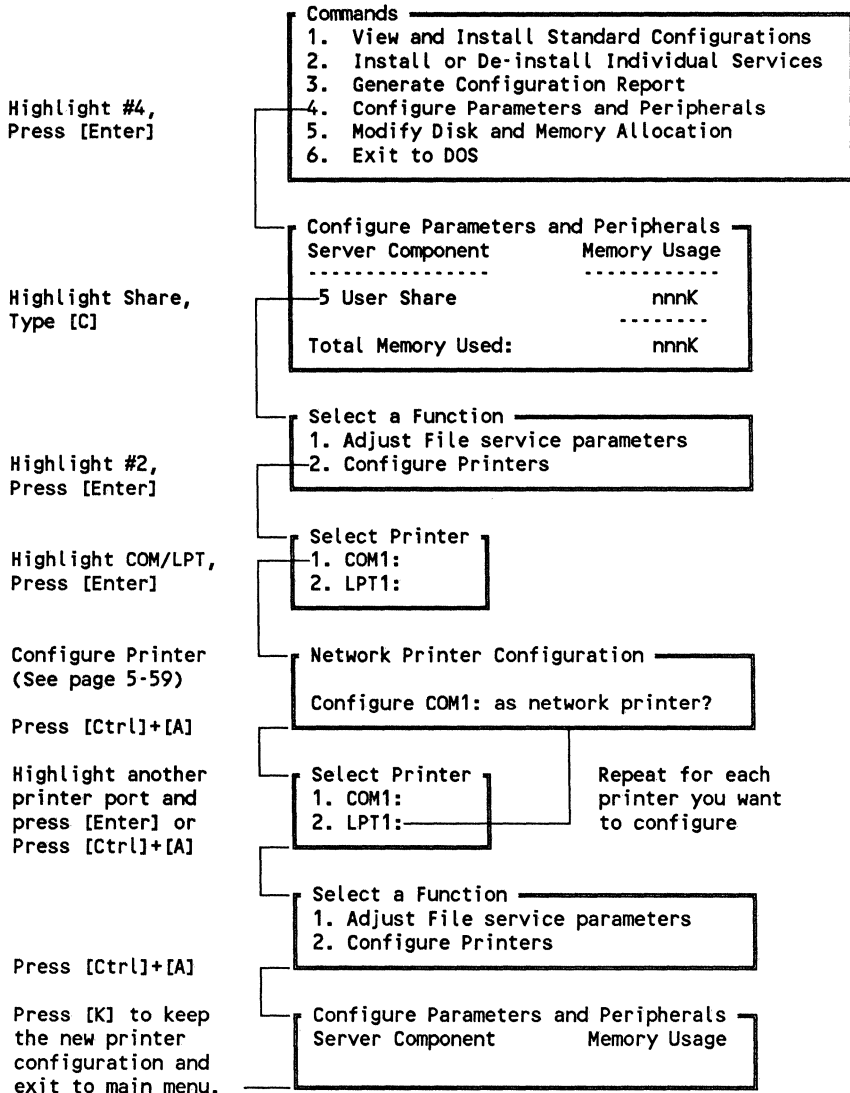

Figure 4-3. How to Configure Network Printers
- ▶ Configure network printers after installing 3+Share (see Figure 4-3).